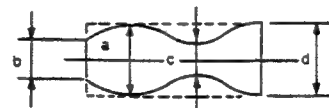

Fig. 2-6 Envelope Waveform Specification
- Make sure the envelope waveform (in its maximum) output meets the specifications shown in Fig. 2-6.